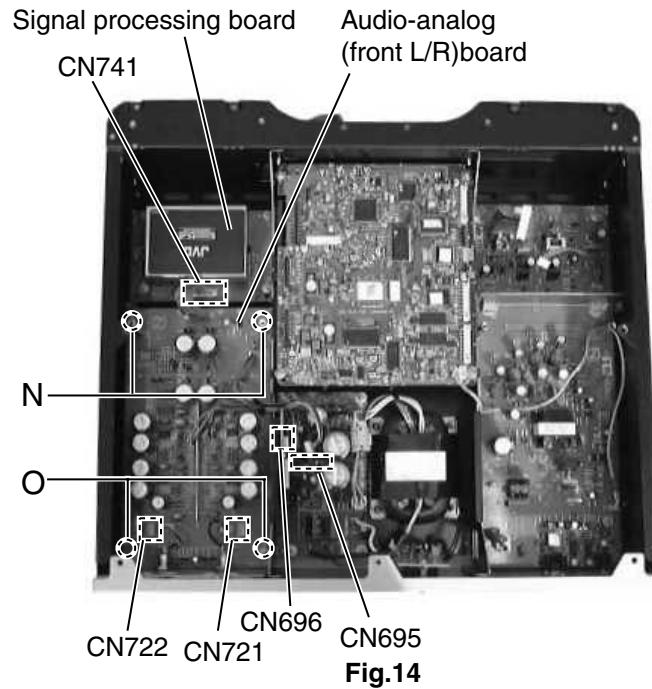

Fig.14
■ Removing the audio(front L/R) board (See Fig.14)